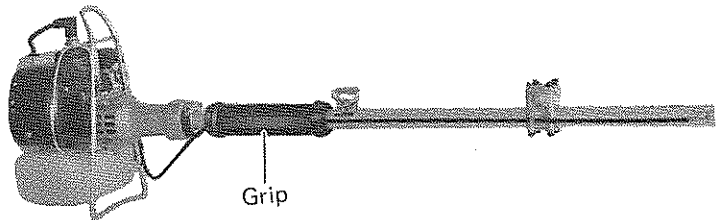

Figure 4
4. Place throttle wire in adjusting screw. Pass throttle wire as shown in figure 4 and insert through the hole in the handle grip. Figure 4.